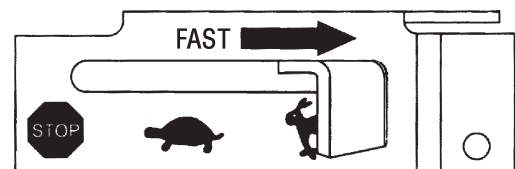

Figure 25. Throttle Lever (Fast Position)
9. To begin mixing, place the throttle lever (Figure 25) in the **"RABBIT" (FAST)** position